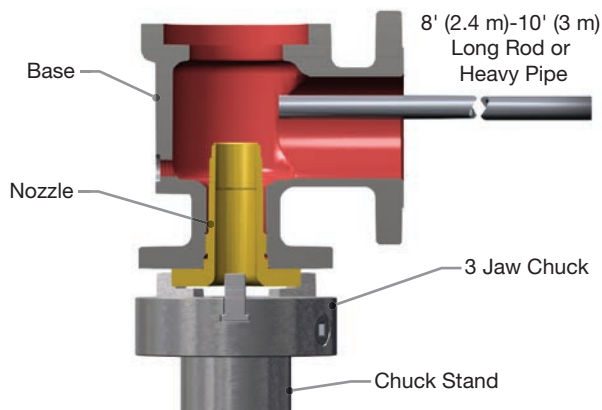

Figure 19: Loosening the Nozzle from the Base
- 18. Using a three- or four-jaw chuck welded vertically to a stand bolted to a concrete floor, clamp the nozzle (2) into the chuck and break the body loose with a heavy rod or pipe (see Figure 19).
seat width is the nozzle seat (see Figure 19).